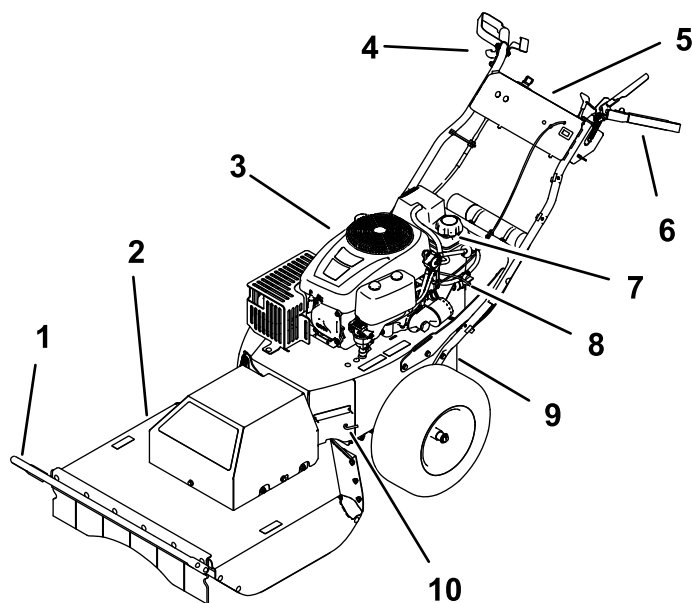
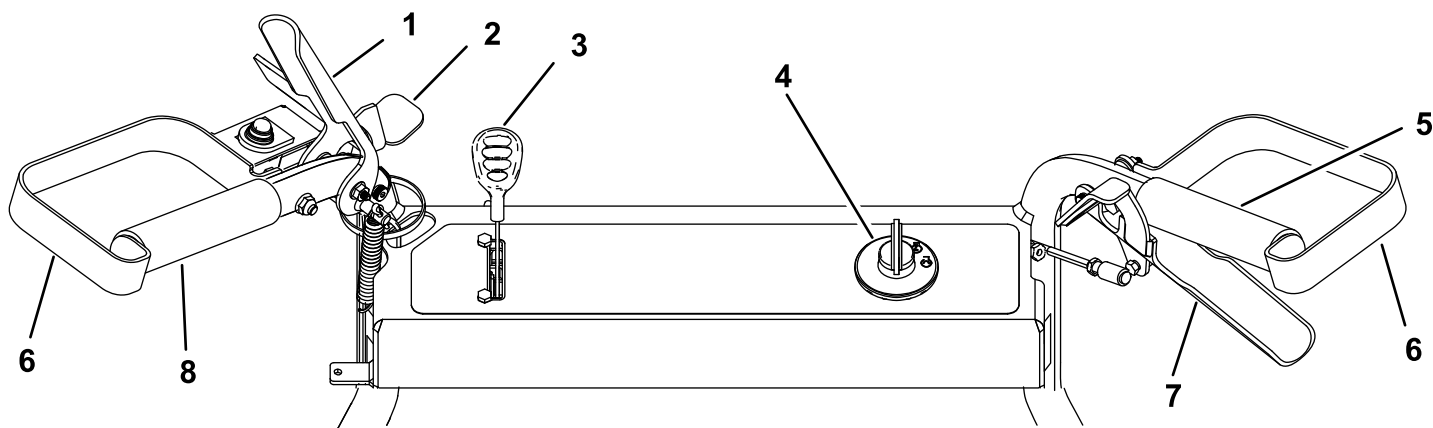

Figure 6
Figure 7
Become familiar with all the controls (Figure 6 and Figure 7) before you start the engine and operate the machine.
3. Clean around the fuel-tank cap and remove it (Figure 6).